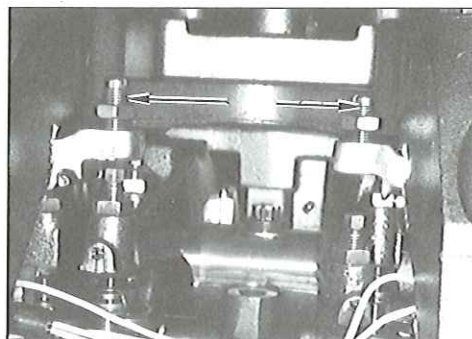

FIG. 21
1. Back out the leveling screw (Fig. 21) in the slave piston assembly until the end of the screw is beneath the surface of the bridge in the slave piston assembly.